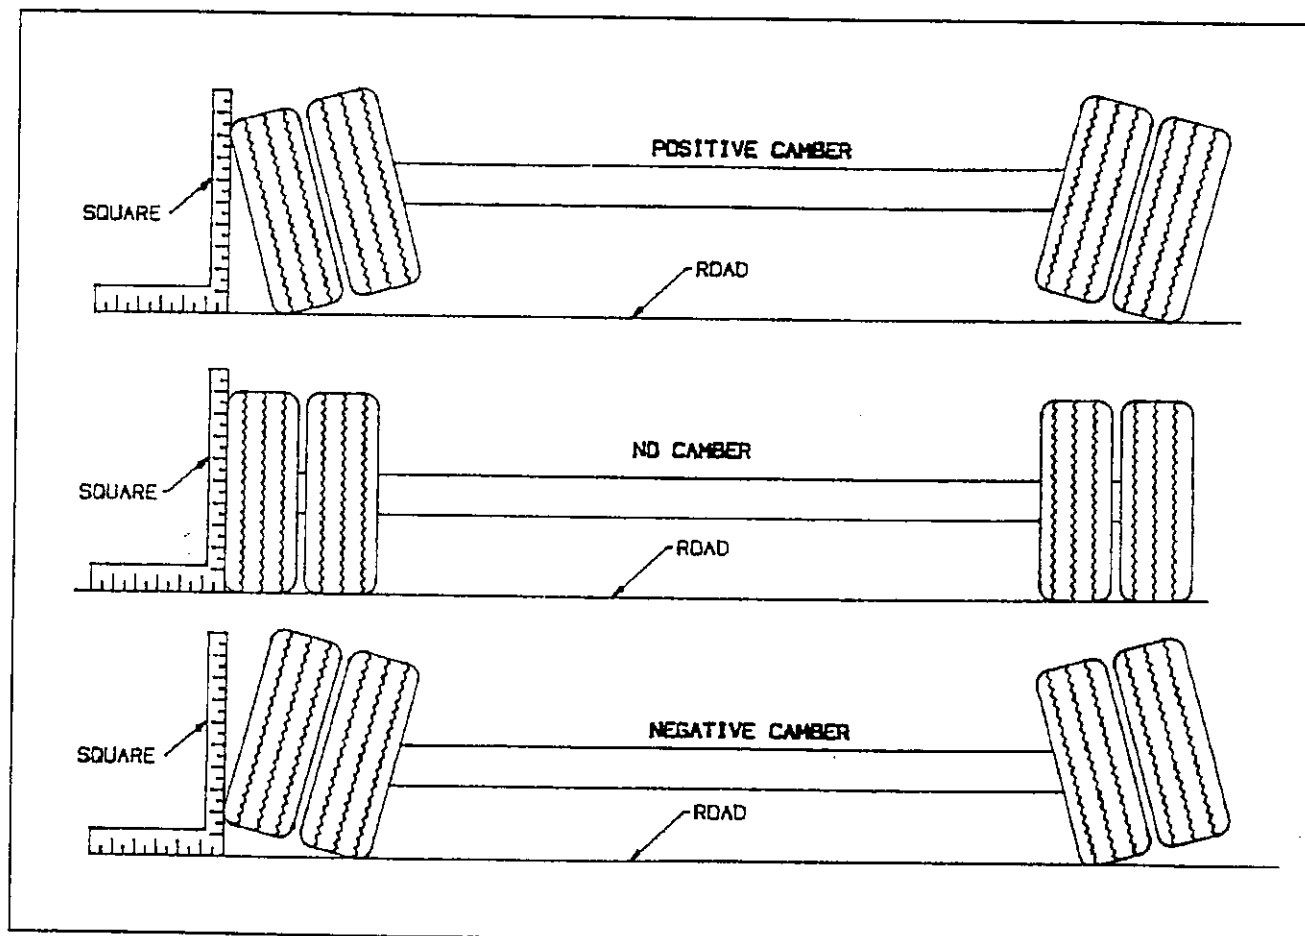

Figure 4-3 Examples of Camber
- d. Follow the same procedures as in Paragraph 4-7.1 b and c, except place the axle gauge above and below the axle. If gauge point gap is found, the axle has positive or negative camber. The semitrailer axle has no camber from the factory. If it is found to have positive or negative camber, axle replacement is necessary (see Figure 4-3 for examples of camber).